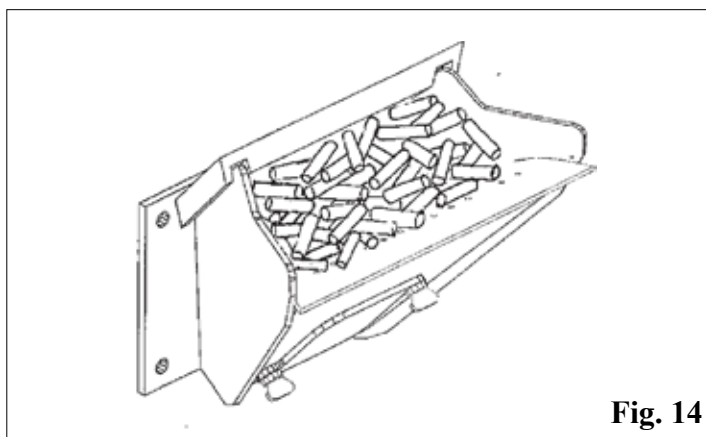

Fig. 14
8. Fill burnpot with pellets as shown. See Fig. 14. Only fill level with the front edge. (----- DO NOT OVERFILL -----)